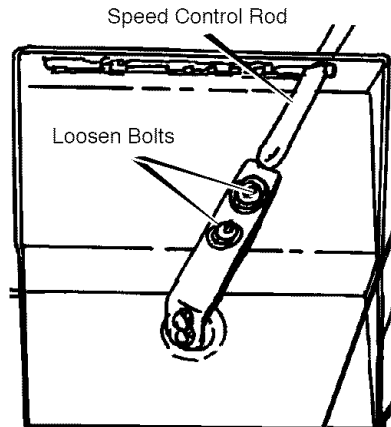

Figure 31
2. Loosen the **bolts** on the **speed control rod** (see Figure 31).
4. Tighten the **bolts** on the **speed control rod** (see Figure 31).